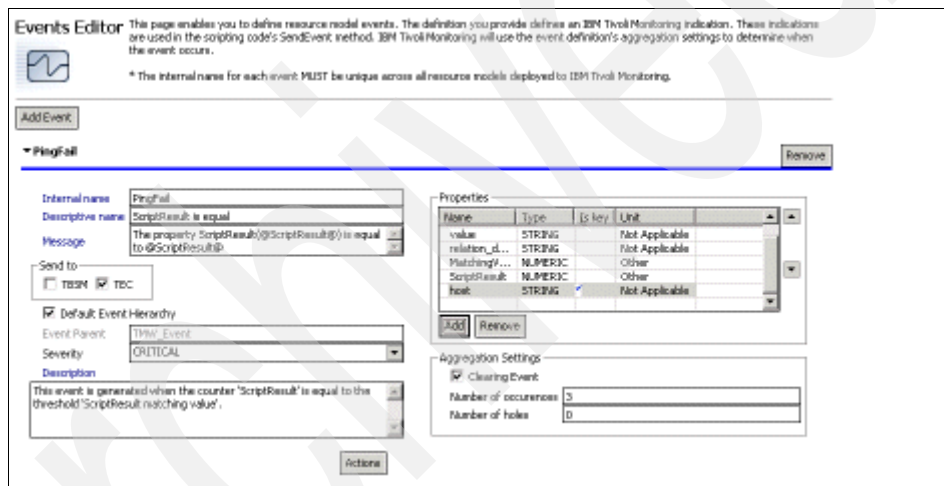

Figure 9-61 New property added to Events Editor pane
36. Select **OK**. You are returned to the Events Editor pane with the new property listed in the Properties list as shown in Figure 9-61.